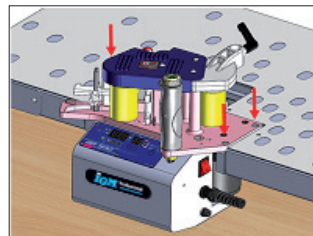

**Fig. 8**
- Adjust (Fig8) to make sure the dispenser is the same height with worktable.